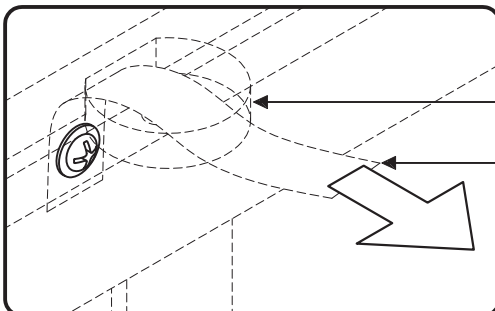

Figure 8
Move unit back into place and insert Tip-over Restraint into unit through hole in Middle Panel (L). (See Figure 8)